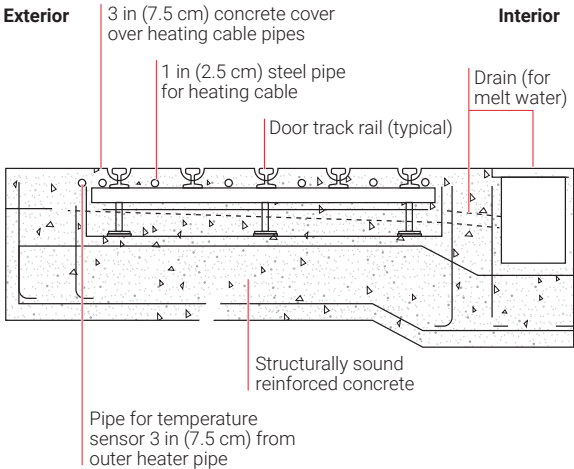

Figure 18: Typical cross-section of hangar door rails
3. Install the 1 in (2.5 cm) pipes for the heating cables so that they are located on either side of the hangar door rails as shown in Figures 18 and 19, and at a depth that will allow for a 3 in (7.5 cm) minimum concrete topping over the top of the steel pipes.
5. Install the pipe for the slab temperature sensor about 3 in (7.5 cm) away from the outer heating cable pipe and located in the outdoor section of the slab (see Figures 18 and 19). Cap the buried end of the pipe so that it is watertight. Before covering with concrete, check that the temperature sensor will fit past the bend in the pipe. If using an automatic snow/ice sensing controller, follow the manufacturer's recommendations to install the slab snow/ice sensor.
7. Pour a high quality concrete topping to the final finished level – 3 in (7.5 cm) minimum above the top of the heating cable pipes as shown in Figures 18 and 19, and ensure that it is thoroughly consolidated with a high frequency vibrator. The concrete cover over the heating cables must be reinforced and structurally sound to prevent damage from aircraft and other heavy vehicles.